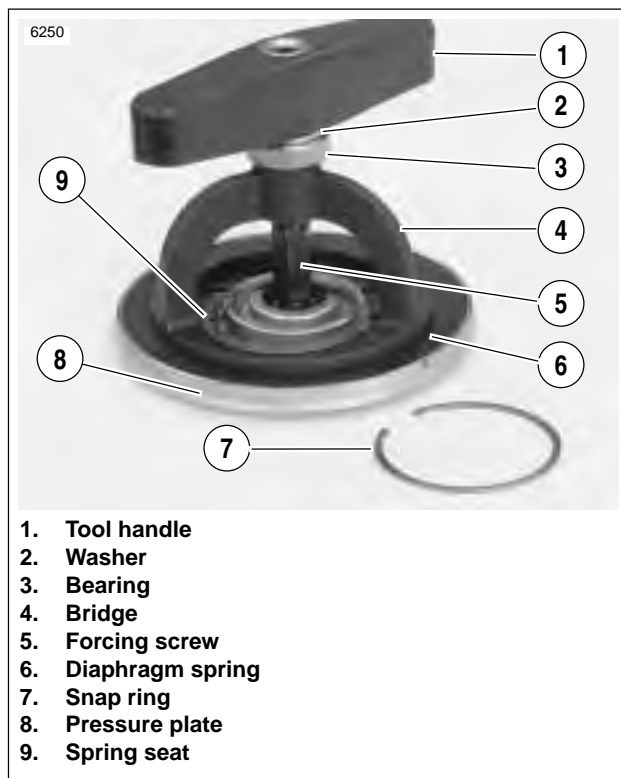

Figure 6-22. Pressure Plate Assembly
- c. See Figure 6-22. Install SPRING COMPRESSING TOOL (Part No. HD-38515-A) onto clutch hub against diaphragm spring.